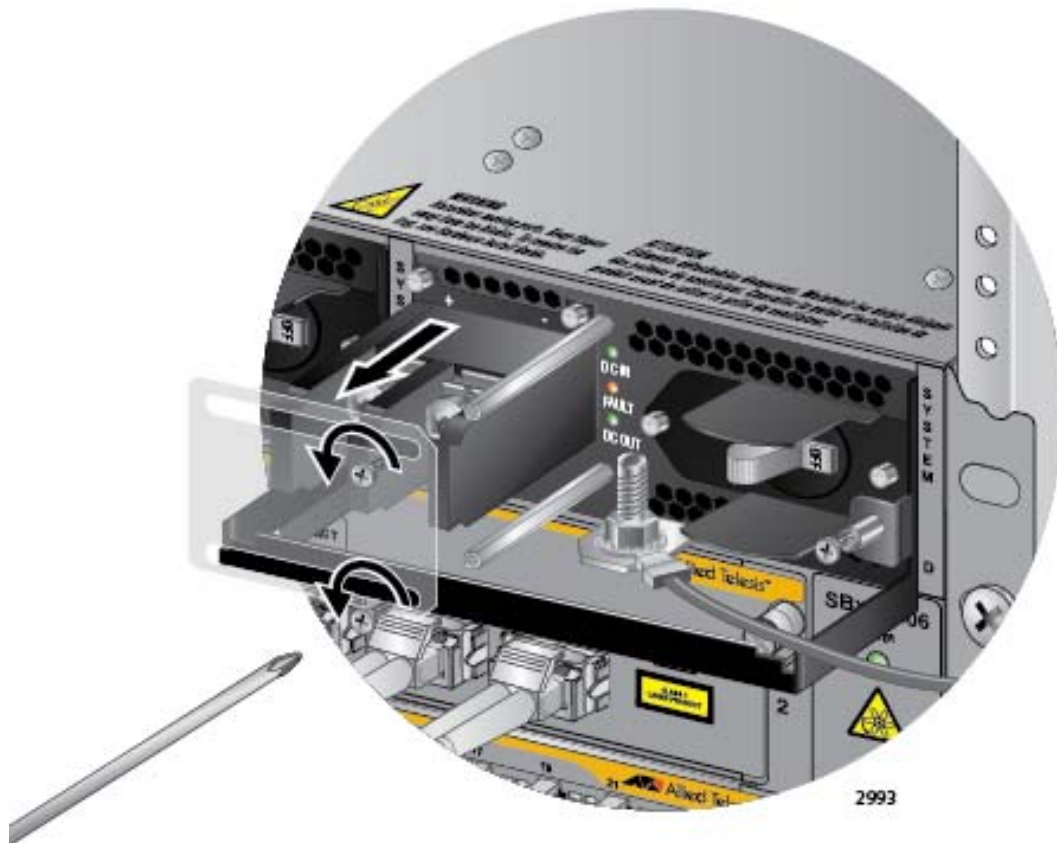

Figure 152. Removing the Plastic Cover
- Using a #1 Phillips-head screwdriver, remove the two screws that secure the plastic cover over the positive and negative terminals and remove the plastic cover from the power supply, as shown in Figure 152. You may need to lift the locking handle slightly to access the bottom screw.